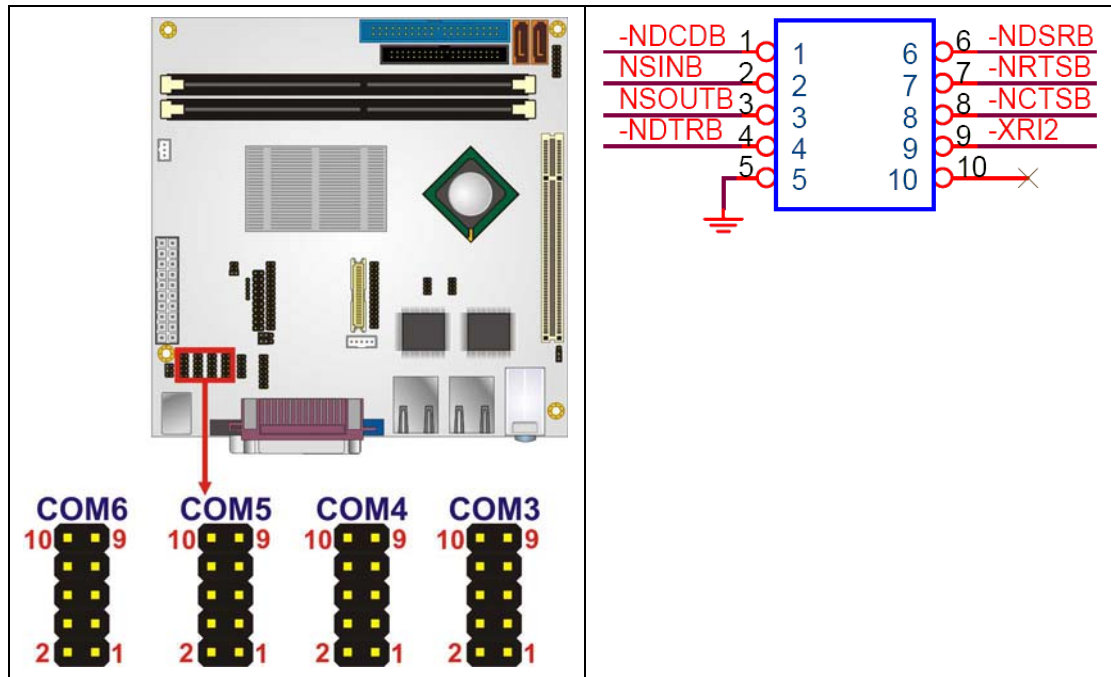

Figure 4-16: COM3, COM4, COM5 and COM6 Connector Pinout Locations
**CN Location:** See Figure 4-16